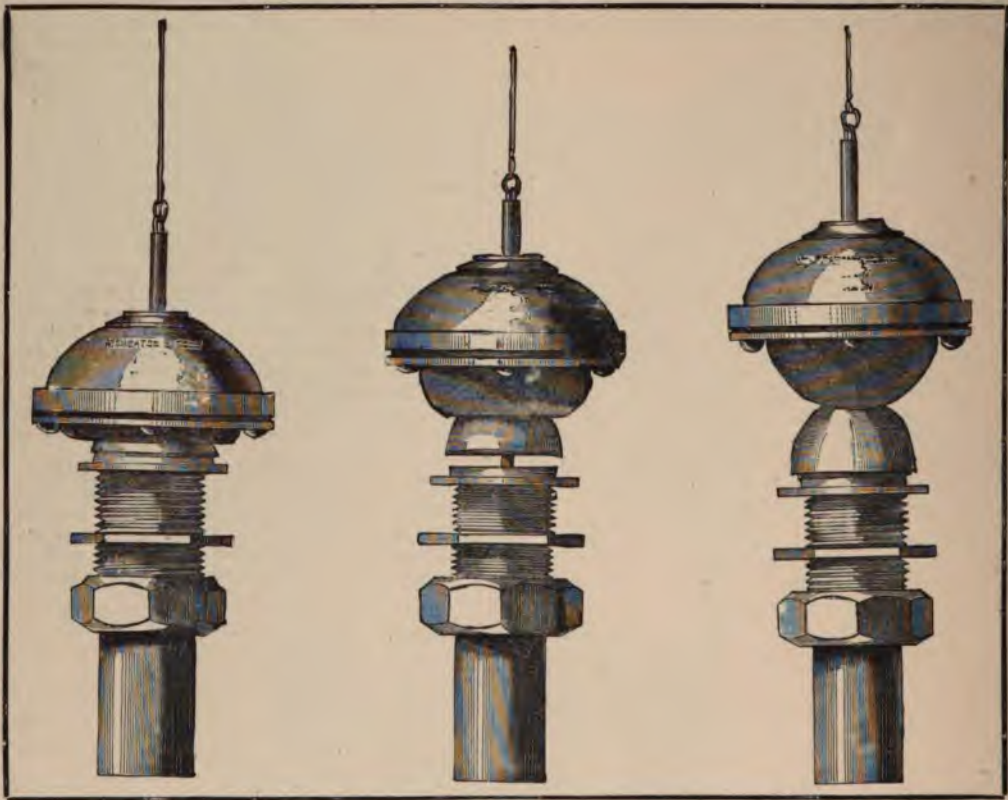
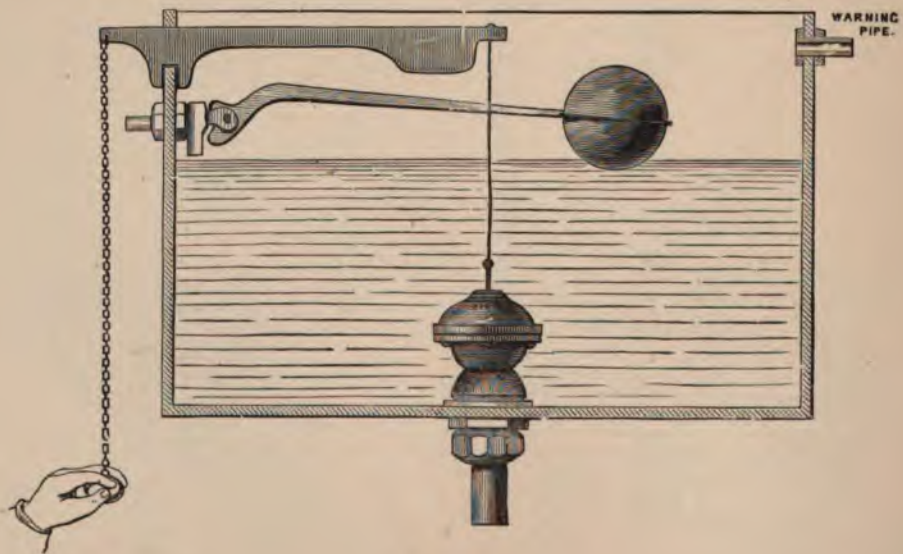

FIG. 614.
FIG. 615.
the seating to be soldered to the bottom of the cistern, and over the down-pipe I, or this may be connected by nut and screw to the cistern. M is the pull-up spindle for attaching the copper wire, D (which may be made to work through a stuffing box at F), the spindle for actuating the flexible diaphragm C. This diaphragm is fixed at H to the ring P, which is also connected to the valve-plate B. At B is a small regulating hole, for the purpose of allowing the descent of the valve when the spindle is being held up. The action is, that on pulling up the spindle D, it brings up the flexible diaphragm, and, with it, the outlet valve A; but as the top Q limits the amount of lift to both diaphragm and valve, the flexibility of the diaphragm, and a small water passage being established at B into the space between the diaphragm and the bottom plate, it allows the valve to descend slowly, and so cuts off the water from above and below the valve-seating. This valve has been made to work under the closet seat, and is done by making the casing Q watertight with a stuffing-box, and by cutting a thread either at J or any other part of the valve-casing. Of course, in this latter case, the spindle M is best worked with a lever. [Also see Fig. 614.]
**Cupped Diaphragm Valve. [Fig. 614.]**
On the left hand side is the valve at rest, and is, as can be seen, a flexible cup attached to a weight. At the bottom of this flexible cup there is a valve covering a seating leading to W.C. Pull up the wire at top of weight, and this brings the cup and valve suddenly off its seating, as shown by the middle figure. But as the cup is hollow and flexible, having a small hole for a water passage, the weight of the valve causes it to slowly fall, as shown on the right hand side, thereby closing the valve to W.C., as shown at Fig. 614. Fig. 615 is the same valve fixed in a small cistern, with ball valve, lever and warning pipe complete.